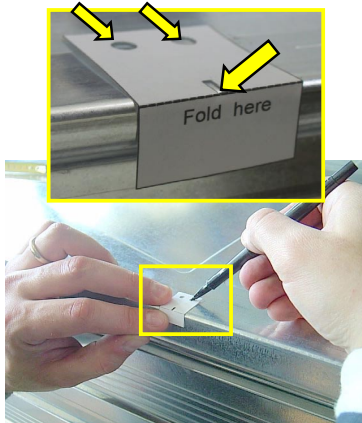

Figure 5
4. Use the screw hole marking guide and place the rectangular opening over the spot previously marked. Now mark the location of the two holes as indicated in figure 5. Do the same for all four locations.